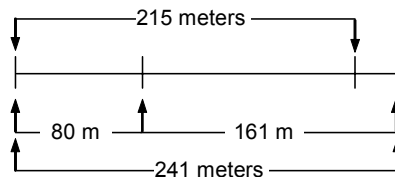

Figure 5-3. Formula for determining length of hunter-killer maneuver box.
(4) To determine the size of a maneuver box, the average vehicle speed for the course and the target exposure time must be known. Figure 5-2, page 5-10, shows how to determine the length of a maneuver box. If the first number after the decimal is 5 or more, the length is rounded up to the next whole number. Figure 5-3, page 5-11, shows how to determine the length of a hunter-killer maneuver box.
(5) Lateral target dispersion for M2A3 or M3A3 Bradleys must be at least 14 degrees. The "rule of thumb" is 25 meters of lateral dispersion for each 100 meters of target range.